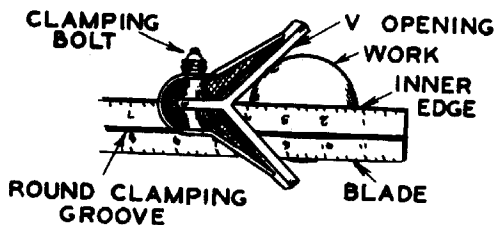

FIG. 5 SCRIBING A CENTER LINE USING A CENTER HEAD
4. Scribe a line along the inner edge of the blade (Fig. 5).